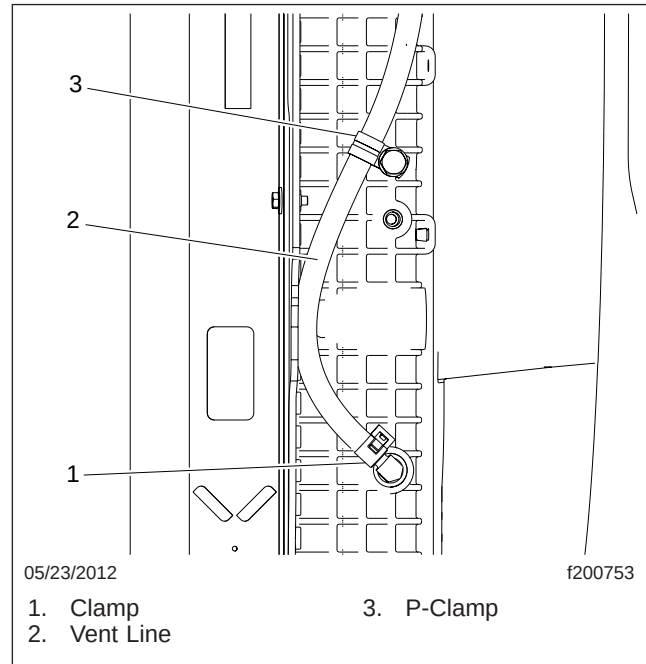

Fig. 3, Surge Tank Vent Line
8. Disconnect the surge tank vent line. See Fig. 3.